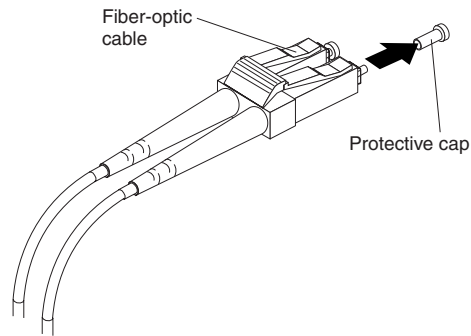

Figure 21. Removing caps from fiber-optic cables
2. Remove the protective caps from the fiber-optic cable end. See Figure 21 on page 25.